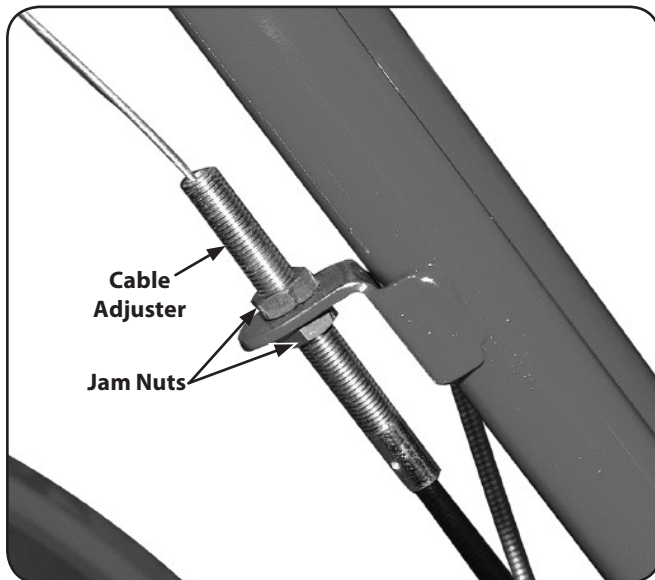

Figure 3-8
3. Attach the cable adjuster to the bracket on the right-side handlebar. See Figure 3-8. Use the two ½" wrenches to loosen the two jam nuts just enough to slide the cable adjuster onto the bracket. Then hand tighten the jam nuts.